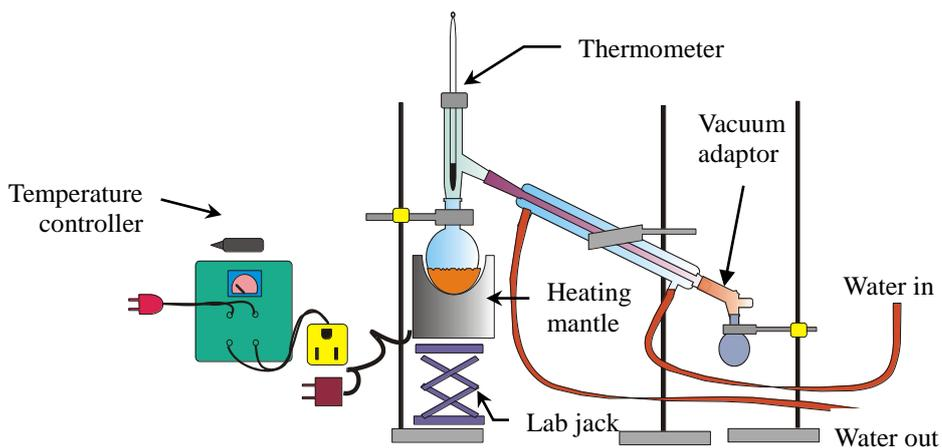

Figure 24-6 The set-up of simple distillation
Refer to Figure 24-6, place a heating device or heating mantle on the lab jack and fix the distillation flask with a clamp. A lab jack under the heating mantle will be helpful in adjusting the level of the mantle. Then install the still-head and thermometer accordingly. If necessary, fill the gap between the flask and the mantle with sea sand for better heat transfer. If the sample has a low boiling point, a hot water bath can be used for heating. Next, connect the condenser to the side arm of the still-head and fix the condenser with a clamp. Care should be taken to avoid building up any mechanical torque, as it may cause the still-head to crack. Afterwards, connect the vacuum adaptor to the condenser and then place the receiving flask below the adaptor, fixed with a clamp. Do not use a beaker with a large opening for collection as the distillate will evaporate into the surrounding atmosphere. In addition, the receiving flask should be cleaned thoroughly, dried, and then weighed before use. Furthermore, the lumen of the condenser should not contain any foreign substances.
3. Assemble and setup the distillation apparatus as illustrated in the Figure 24-6; replace the receiving flask with a 10-mL graduated cylinder held in place with a clamp. In this way the volume of the distillate can be measured in milliliters. Ensure that all joints are and tight. Connect the heating mantle to the temperature controller.